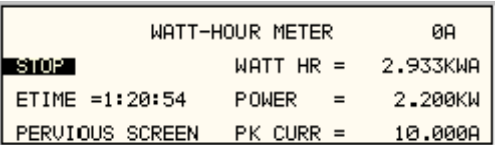

Figure 9-45: WH-Meter Screen with Function Active
- START: This field will activate the watt-hour measurements. Moving the shuttle clockwise when the field is highlighted will activate the watt-hour function and the field will change to STOP as shown in Figure 9-45.